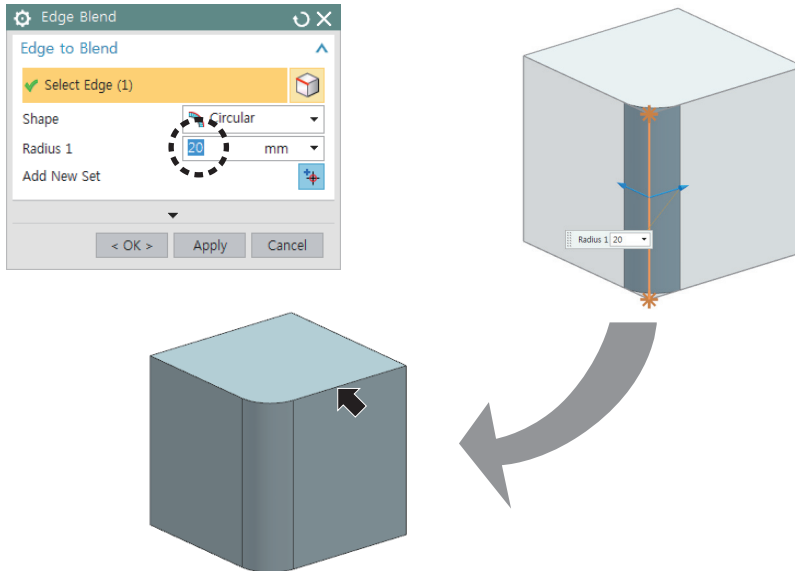

Fig 6-9 Creating R20 Edge Blend
5. Delete the **Radius 1** value in the **Edge Blend** dialog box shown in Fig 6-9 and press the **Enter** key. You can see the preview of Radius 1 = 20 fillet in the graphics window. Press the **Apply** button in the dialog box.
The sharp edge is rounded as shown in Fig 6-9.
6. Ensure that the **Radius 1** value is 20 and select the edge designated by the arrow in Fig 6-9.